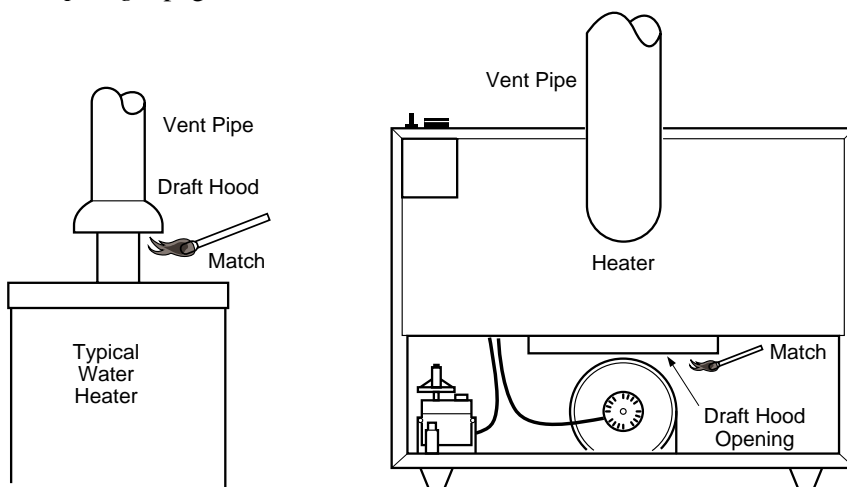

Figure 9 - Checking for Draft Spillage
6. Check for draft-hood spillage at each vented gas appliance. Do this by holding a lit match two inches from the draft opening (see Figure 9). If match flame pulls toward the draft hood, there is no spillage. If match flame blows away from the draft hood, there is spillage. This is a hazardous condition. See *Draft Hood Spillage*, page 16.